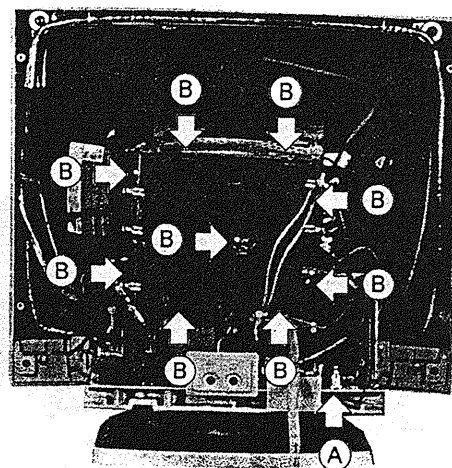

Figure 2-4
1. Disconnect the ground wire from the main board. Refer to the figure 2-4 (A).
2. Remove the nine solder sides from the neck board. Refer to the figure 2-4 (B).